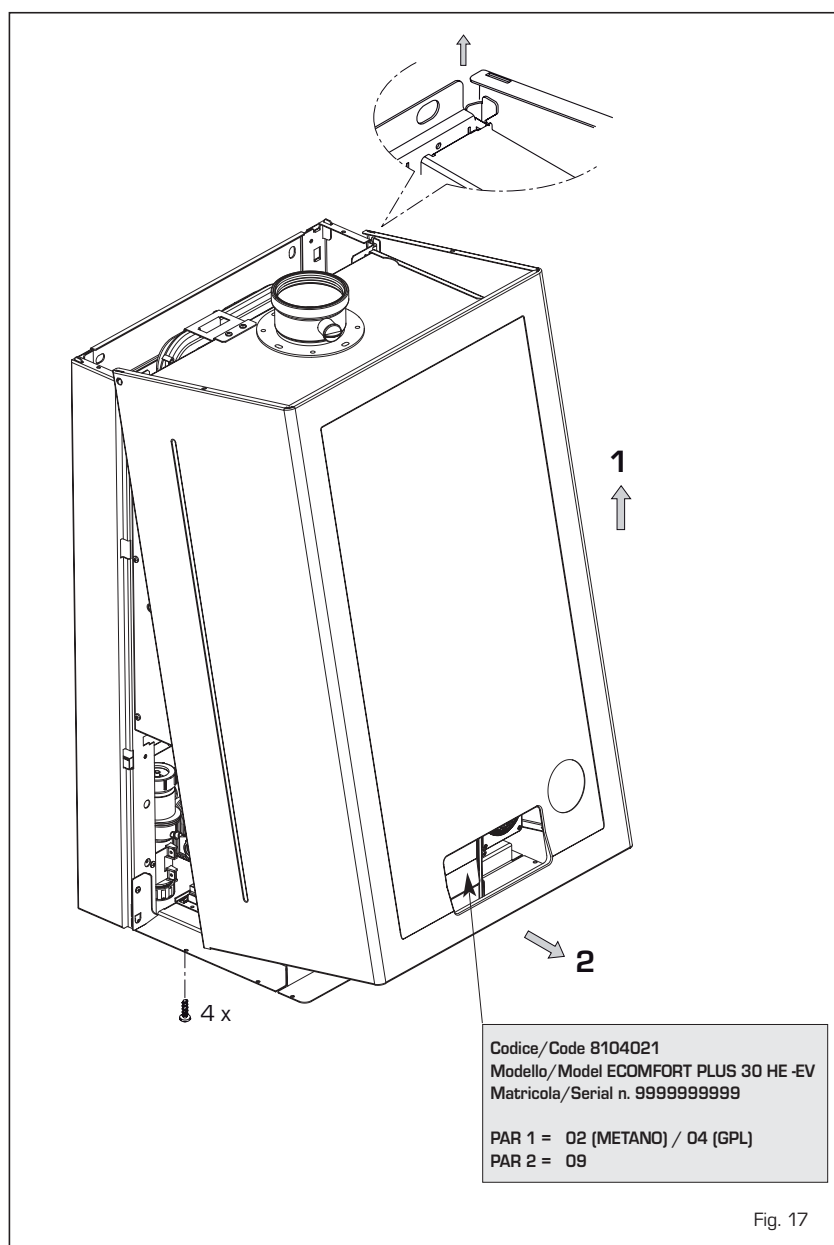

Fig. 17
- Put the plastic cap (1) back on the modulator. Check all test points and connections for gas tightness.
4.3 DISMANTLING THE CASING (fig. 17)
The casing may be removed completely to facilitate boiler maintenance, as shown in fig. 17. Turn the panel control forward for access to the internal components of the boiler.